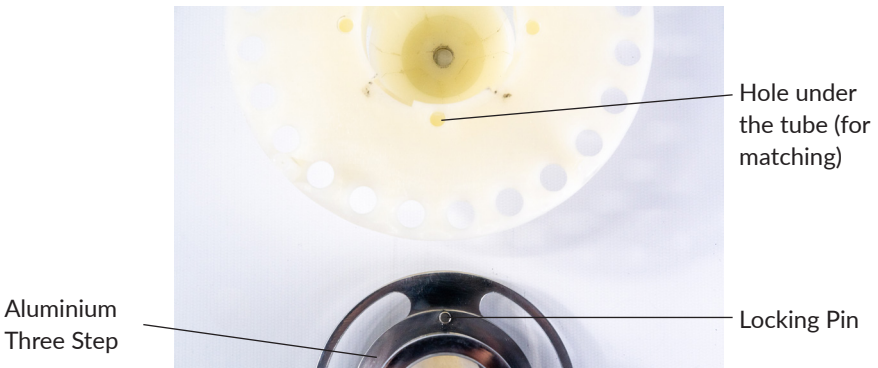

Fig. 6
3. Take out the assembly of Spoke Plate and Tube Holder (Ref. Fig. 6)
6. When all the sample tubes are loaded, place the assembly into the FastPrep-24™ instrument. Align the Locking Pin of the Aluminium Three Step with the holes under the Tube Holder, ensuring its proper placement (Ref. Fig. 6).